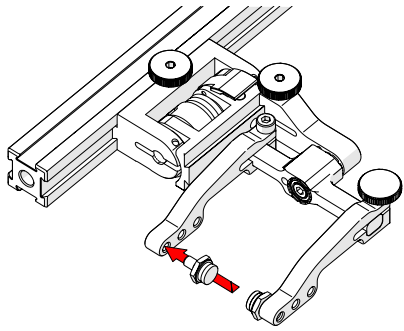

Fig. 79 - Place pivot buttons
4. Using the supplied 3/8 in wrench (Fig. 25), place the pivot buttons as required (Fig. 79).